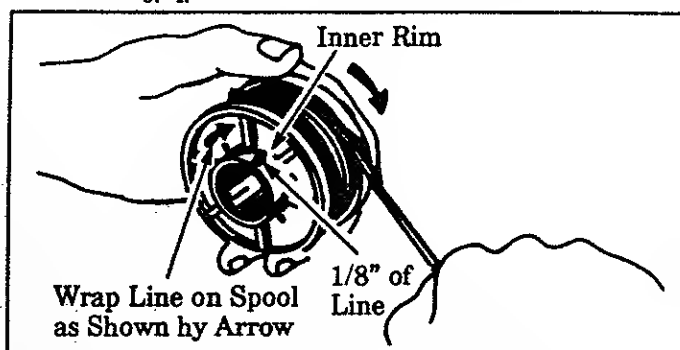

Figure 22
- Insert 1/16" to 1/8" of the end of the Line through the hole in the inner rim of the Spool. Figure 22. Allow no more than 1/8" line to extend beyond the rim to avoid interference with tapping action.
- Wrap the Line onto the Spool firmly and evenly in a clockwise direction as shown by the arrow on the Spool. Figure 22.